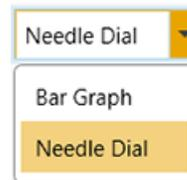

Figure 4-8. Tuning – Change Display View
1. From the drop-down menu next to Range in the Tuning window, select the style (either a Bar Graph or the Needle Dial), as shown in Figure 4-8. This changes the style in which you want measurements displayed in this panel.